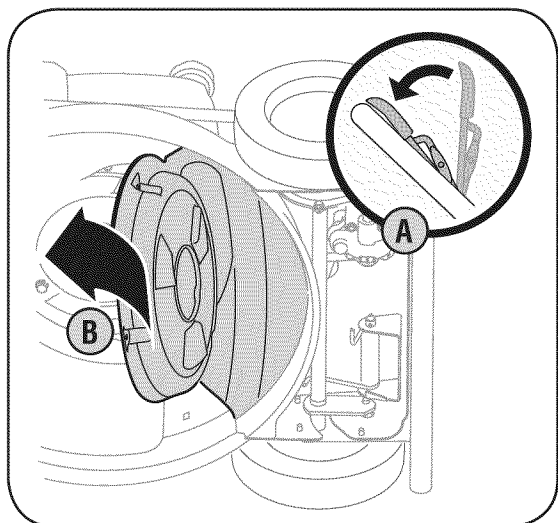

Figure 5-10: Engage the blade control to tighten the belt (A) and place baffle back onto deck (B).
- Squeeze the blade control against the upper handle to tighten the belt. Return baffle back to its original position and release the blade control, Figure 5-10.